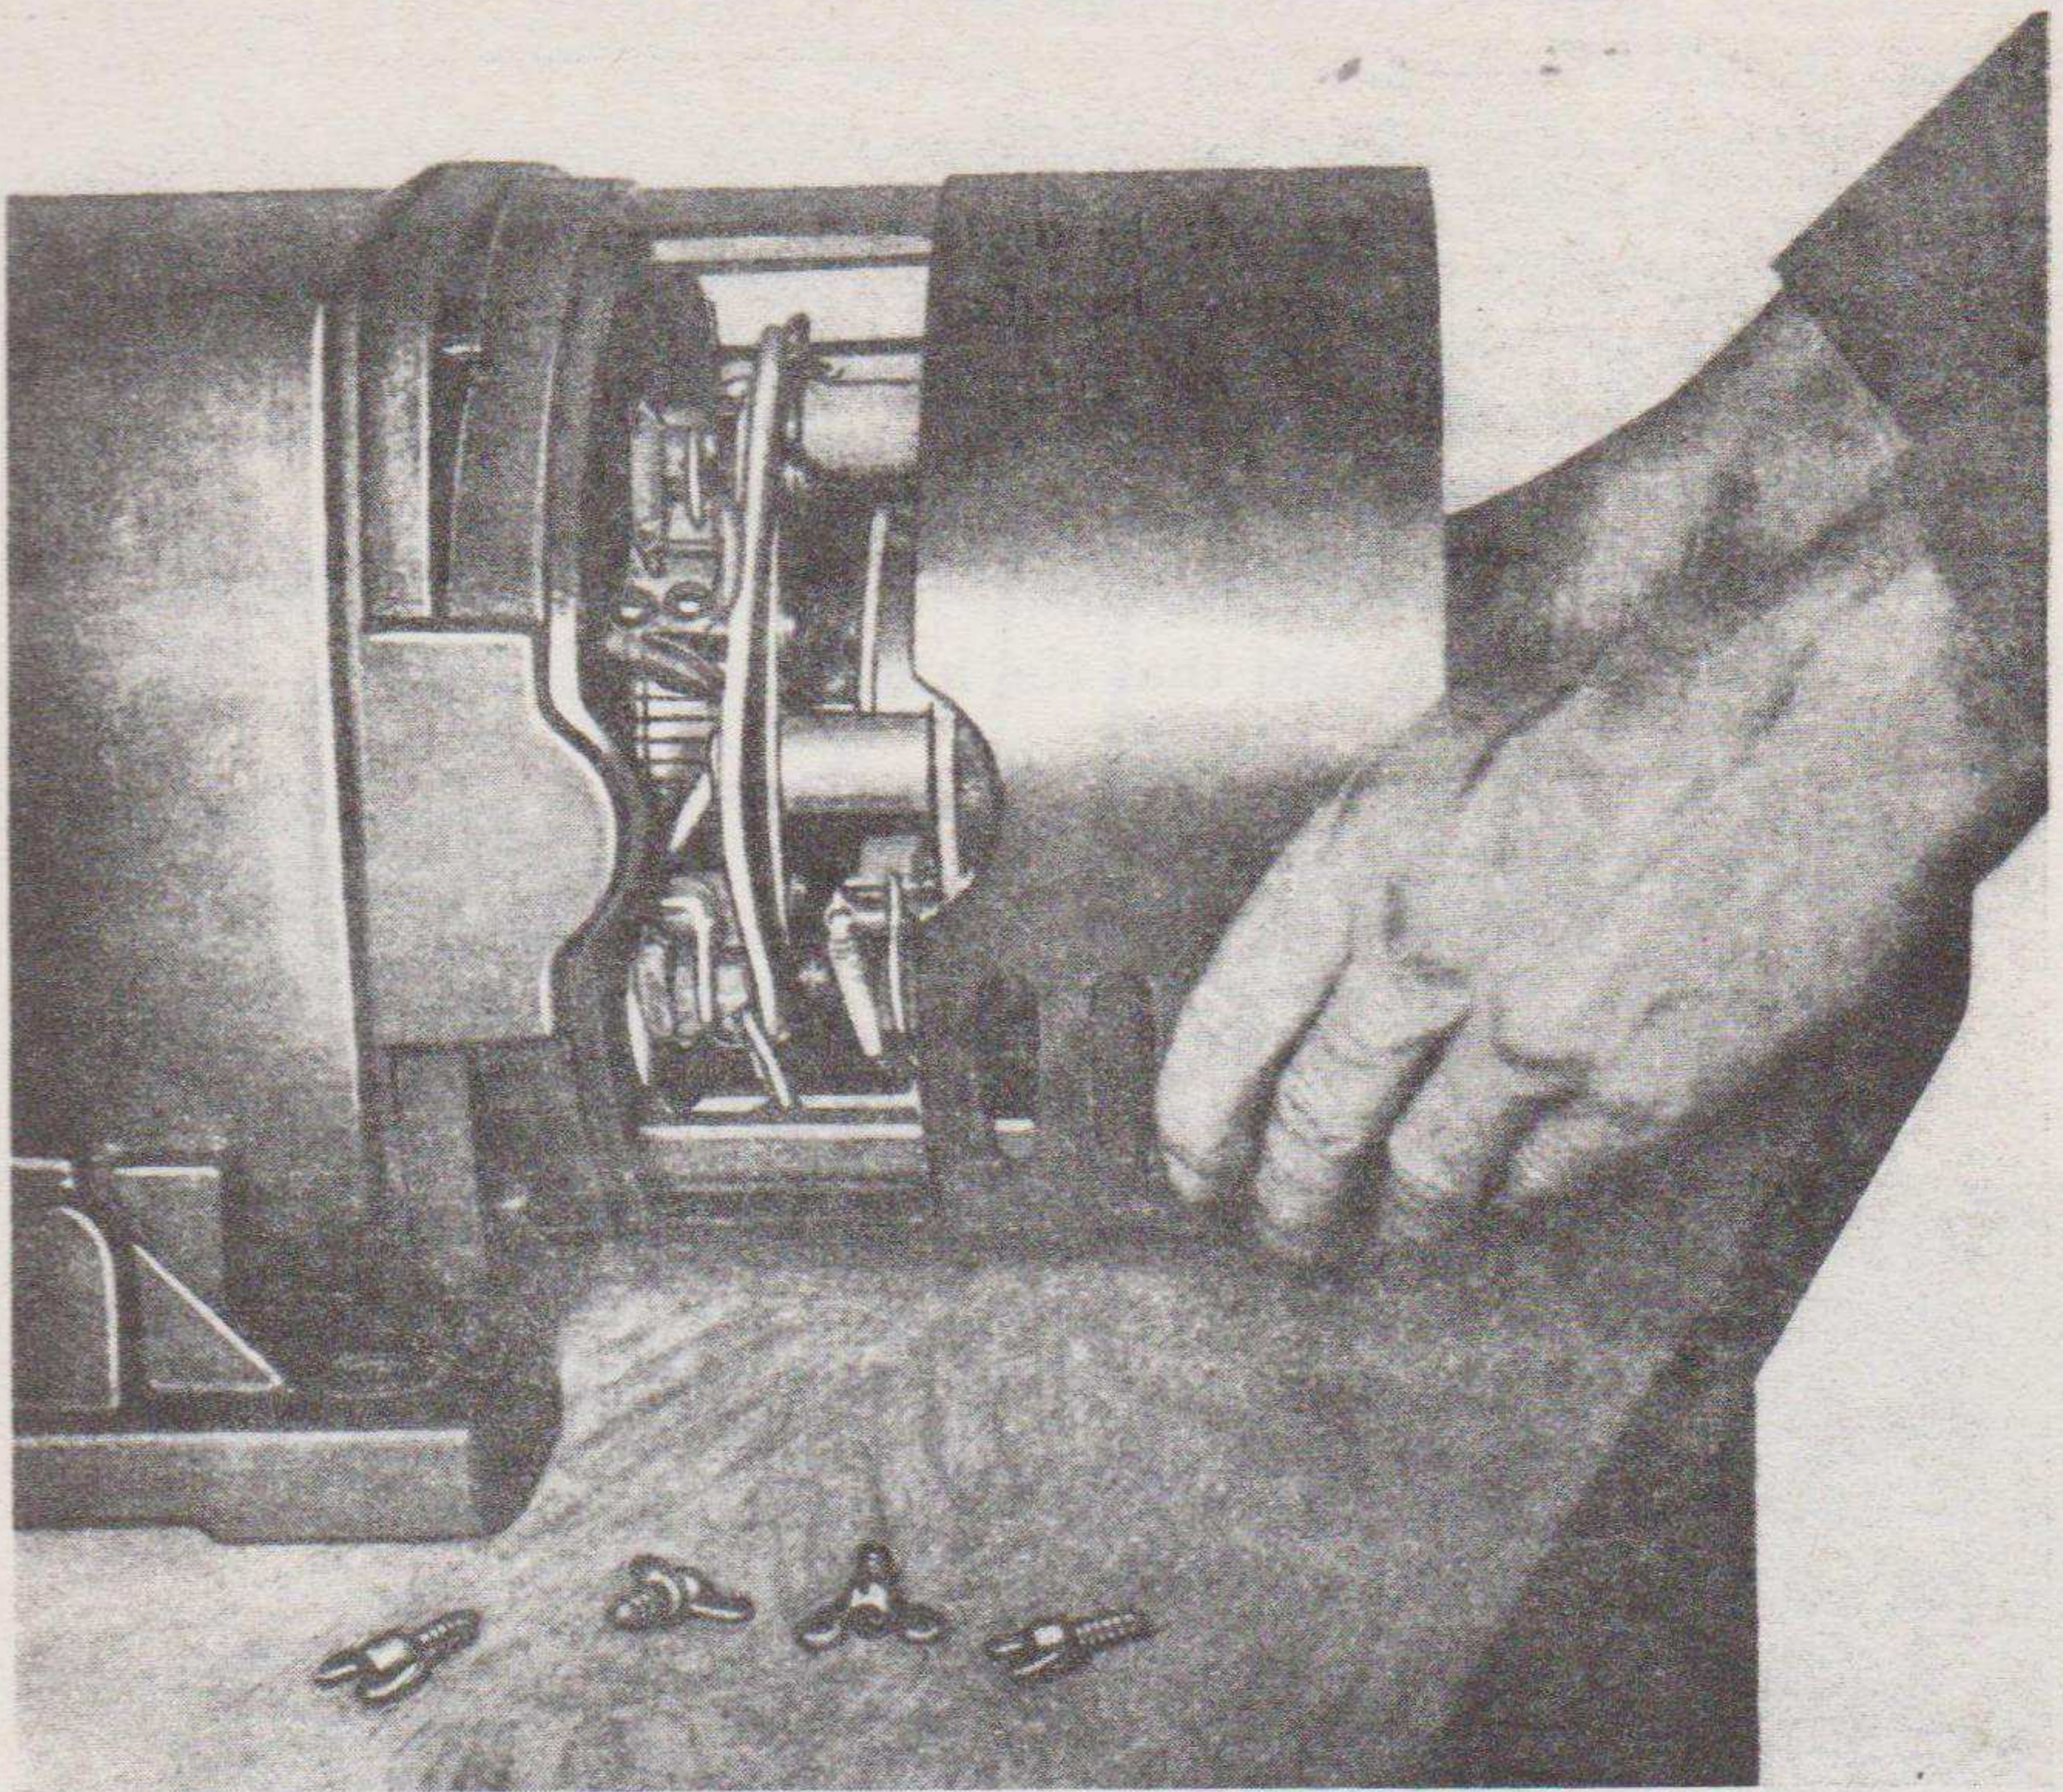

Figure 19. Removing commutator cover.
c. *Commutator Cover Removal* (fig. 19). To remove the commutator end cover, remove the four wing screws and slide the cover from the end of the generator.